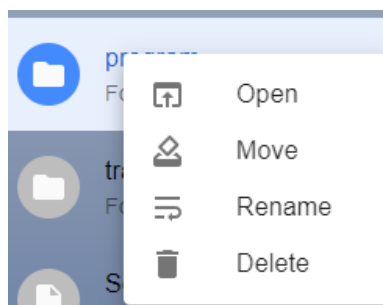

Figure 11-7 : operations on folders
2. After selecting a folder, right-click the mouse to open, move, rename, and delete the folder, as shown in **Figure 11-7** .